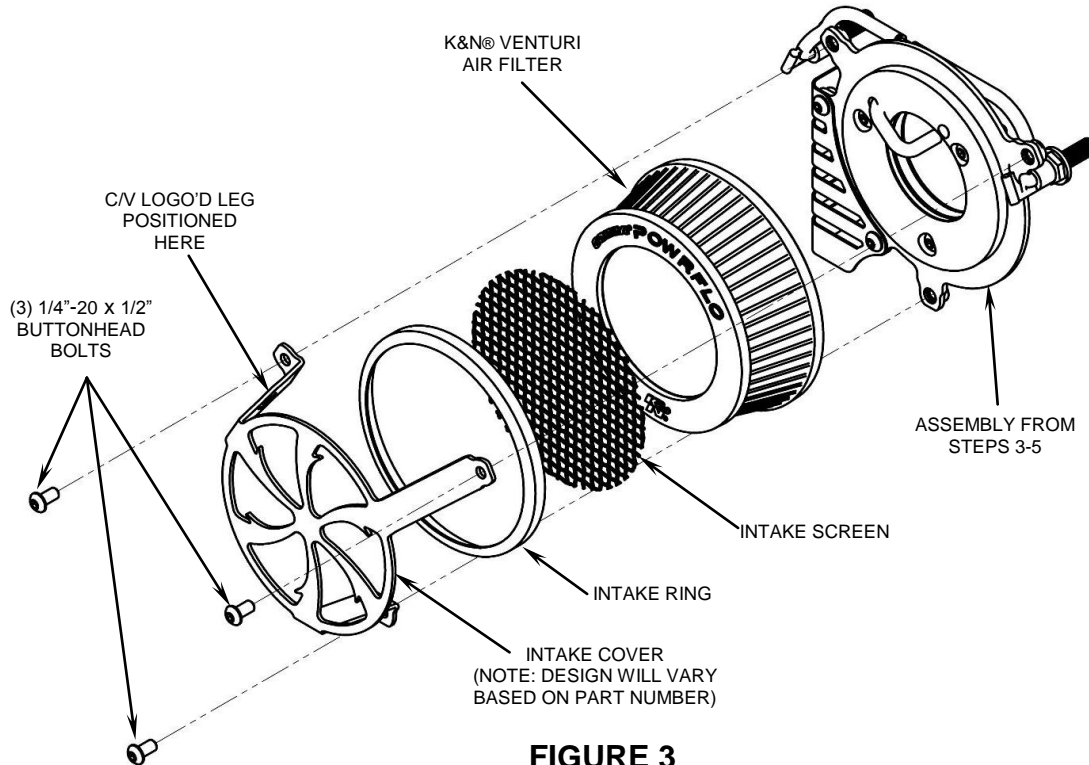

FIGURE 3
9. Place the supplied K&N® filter onto the velocity stack. See **FIGURE 3**.
10. Insert the intake screen into the intake ring so the screen sits inside the edge of the ring. See **FIGURE 3**.
11. Place the ring and screen between the legs of the intake cover as shown in **FIGURE 3**.
12. Place the intake cover, ring, and screen assembled in previous step over the air filter and align each leg to the base mounting plate threaded holes. Be sure screen sits at a 45° angle to the bottom leg, and C/V logo'd leg is at the upper left position. See **FIGURE 3**.
13. Insert the (3) supplied 1/4"-20 x 1/2" buttonhead bolts through the intake cover and into the base mounting plate, see **FIGURE 3**. Double check all parts are aligned properly and tighten securely.